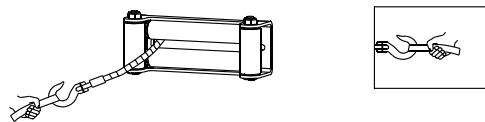

figure 3
10. After the operation, clean the wire rope and the hook. It is forbidden to put fingers on the hook, for fear of causing injury. It is also forbidden to guide the wire rope to the drum by hand. When the hook comes near to the roller fairlead, you should use the handsaver to guide the wire rope (See figure 3).